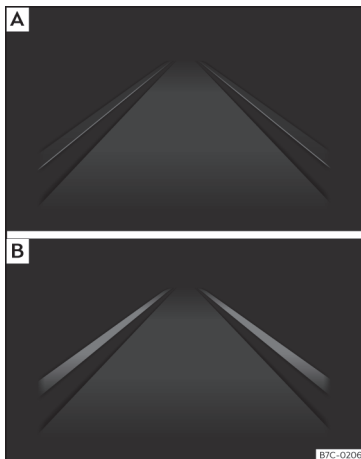

Fig. 223 On the instrument panel display: Indication on the Lane Assist system display (example 1).
- Fig. 223 [A]: The system is active, but not available, either because the minimum speed has not been reached or because the lane lines are not recognised.
- Fig. 223 [B]: The system is active and available, both lane lines are recognised. The steering angle is not being corrected at this moment.